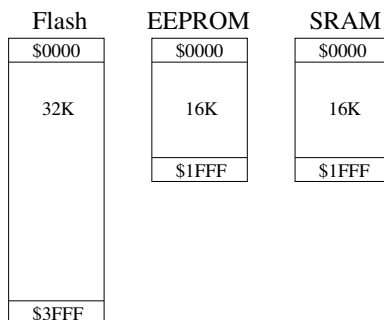

Figure 2.7: Separate Memory Addressing.
- Each memory is addressed separately, see Figure 2.7 (e.g. ATmega16).